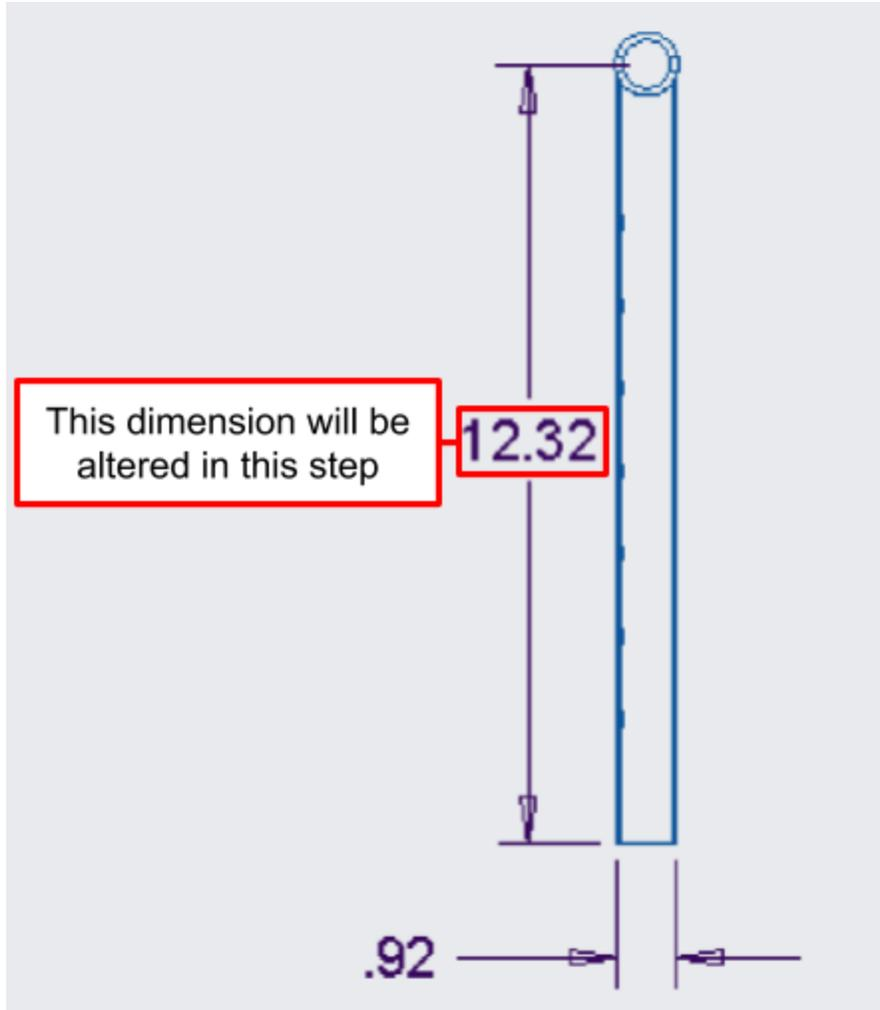

Figure 13. A close-up of the straight handlebar engineering drawing, showing the modified height of the adjustment bar.
- b. If modifying the height of the adjustment bar modification, note that the dimension that will be modified is the 12.32" dimension, seen in Figure 13 below (from the engineering drawing for "Straight Left/Right Handlebar").
- iii. This means that the 12.32" dimension as seen above in Figure 13 will now become 12.07".